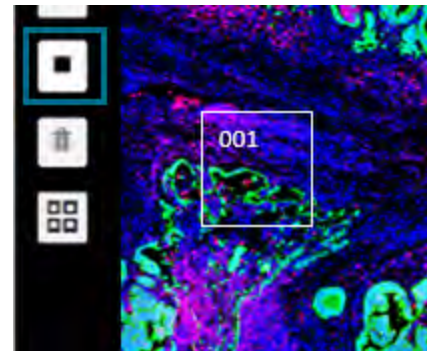

Figure 35: Single FOV Placement
1. Select the **Single FOV Placement Tool** from the FOV Selection Workspace (see Figure 35).